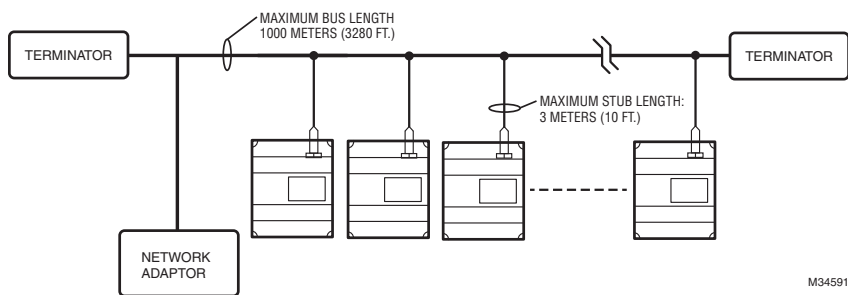

Fig. 26. LonWorks Bus Topology.
- a. Bus Topology: (2) Terminators, ECHELON Model Number 44100R or equivalent. Please see Figure 26.